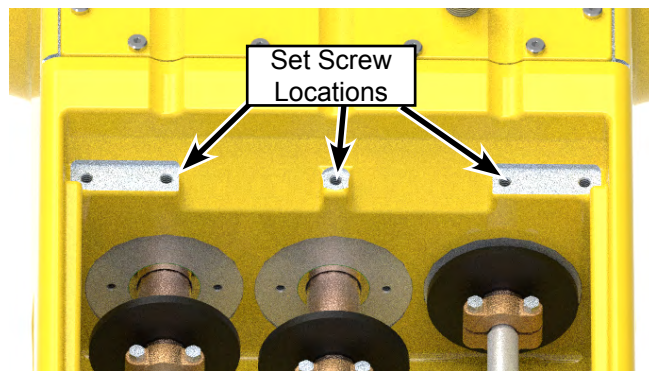

Figure 109: Loosen Set Screws.
8. Using a 1/4" hex driver, loosen the set screw inside the bolt hole 2-3 full revolutions (Figure 109). Use a 3/16" hex driver for 2000 Series pumps. Remove the three capscrews and washers that secure the rod box cover to the frame. Remove the cover. Remove the rubber washers that sit below the mounting plate.
9. Using a 1/4" hex drive, tighten the set screw that secures the plate to 15 in.-lb. (1694 mN·m) inside the access holes (Figure 109).